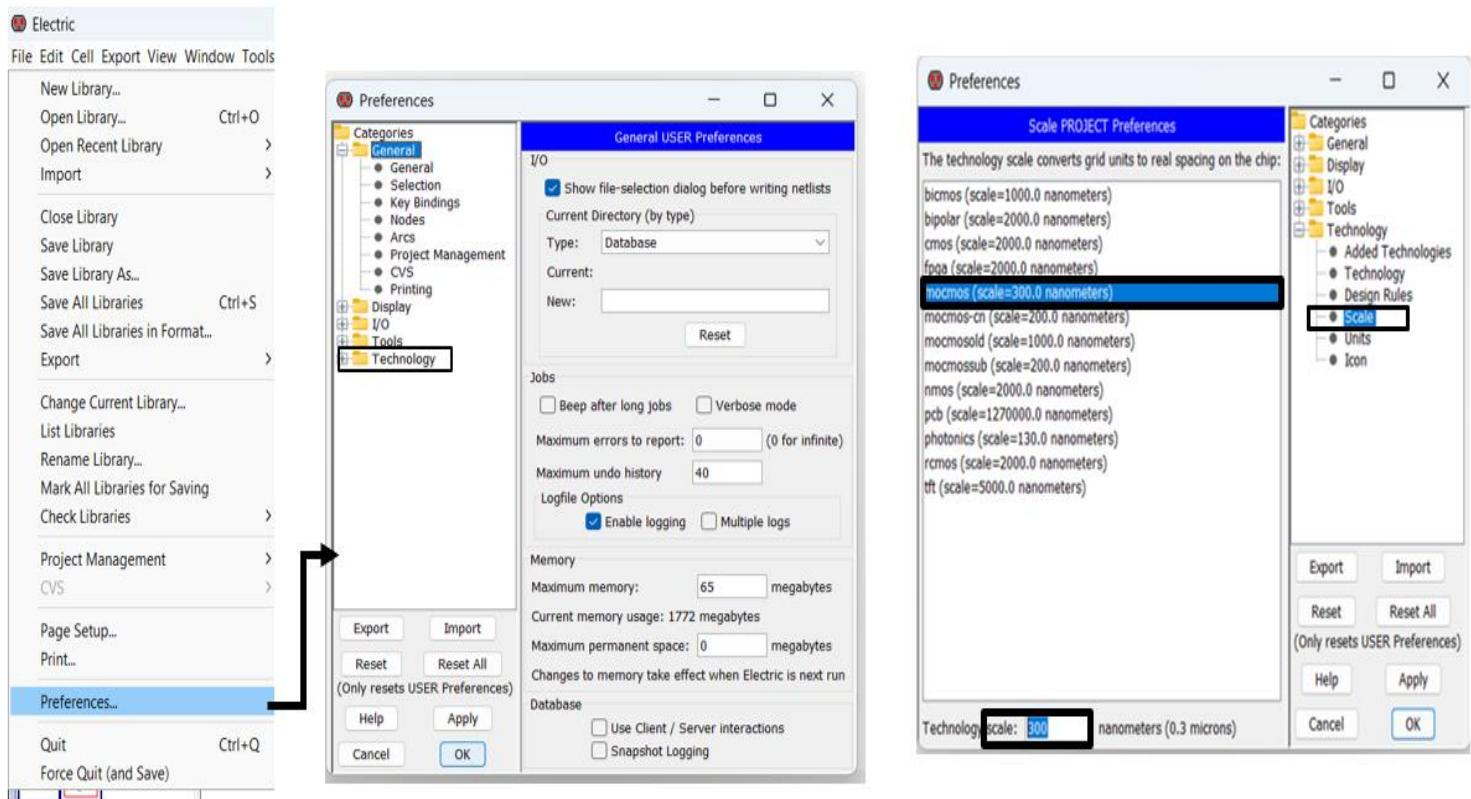

Figure 1.5: Changing the MOS scale.
3. Set the MOS scale to 300nm by adjusting the settings and click Apply, then OK (see Figure 1.5).